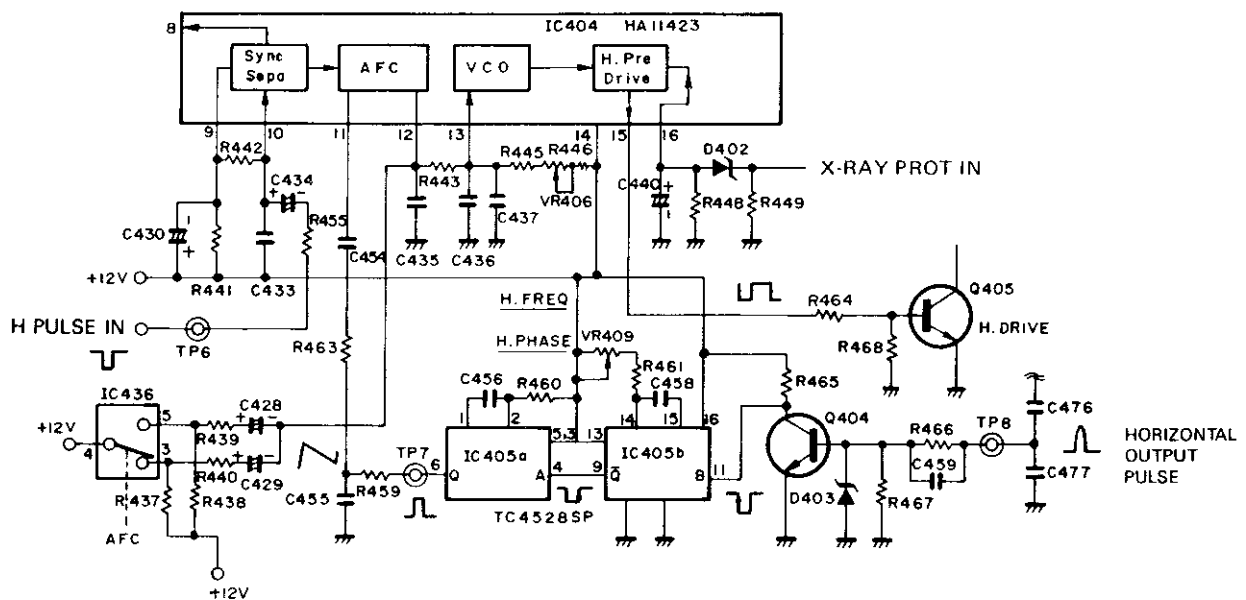

Fig. 30 Horizontal Deflection Circuit
- 1) Fig. 30 shows the horizontal deflection circuit; horizontal oscillator, H-AFC, H-drive, etc. IC404 is for deflection signal processing, and vertical deflection.
- 2) The H pulse input to Pin ⑩ on IC404 passes through the sync separator, and is applied to the H-AFC circuit
- 3) The horizontal output pulse is divided by the capacitive divider in horizontal output circuit and is inverted by Q404. It enters Pin ⑪ on IC405b as a negative trigger pulse. Its pulse width is determined by IC405a, the phase is controlled by one-shot IC405b. The IC405a output pulse is integrated by R459 and C455 into a sawtooth pulse, it is then applied to IC404 Pin ⑪ as the AFC pulse.
- 4) The H pulse that has passed through the sync separator circuit and the AFC pulse from the horizontal output are phase-compared by the AFC circuit. The detected component becomes the AFC control voltage. The AFC time constant is determined by C435, R439, and C428 and is connected to IC404's Pin ⑫. The voltage is applied to the horizontal VCO to control the horizontal oscillation frequency.
- 7) The pulse output of the VCO passes through the H. pre-drive circuit and is output from IC404 Pin ⑮ as the H. drive pulse.
- 8) The voltage for X-RAY protection is obtained by dividing the output pulse of the high voltage generation. If the high voltage becomes excessive the amplitude of the pulses at X-RAY PROT in exceed the zener voltage of D402 and are filtered by C440. This voltage is applied to Pin ⑯ of IC404 to stop horizontal drive. Thereby disabling the HV.